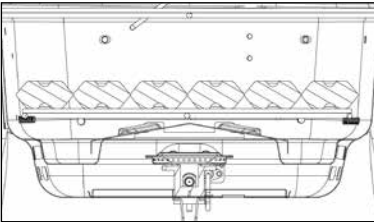

Figure 8
4. Arrange charcoal briquettes or other fuel on the charcoal grid (Figure 8).